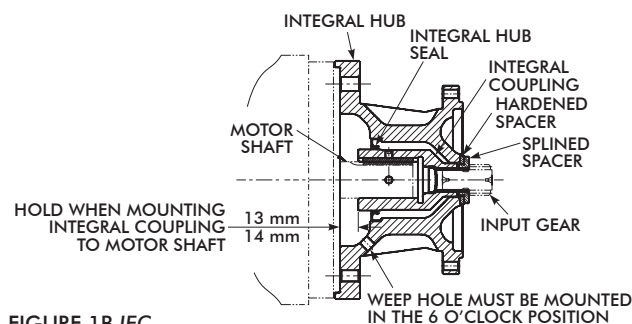

FIGURE 1B IEC
- b. **IEC Motor Flange Coupling:** Locate the coupling 13.0 mm to 14.0 mm from the motor face. Refer to the illustration in Figure 1B.